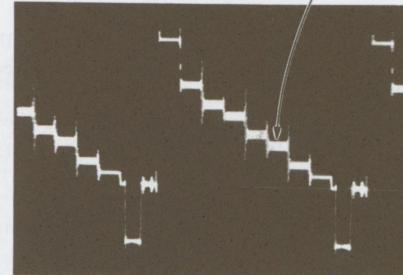

Fig. 5-57.
9. Adjust L1 on the BB board for minimum 3.58 MHz component. (3.58 MHz trap adjustment) (See Fig. 5-57.)